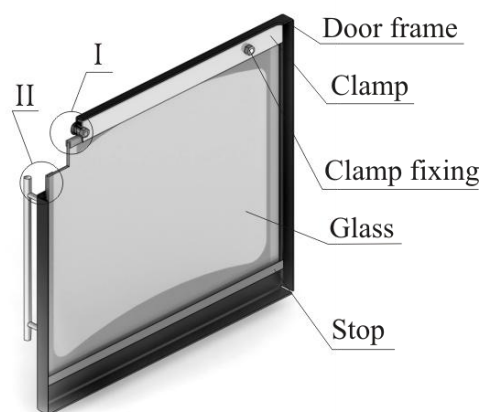

Figure 15. Repair of translucent screen of «Vitra» model door
In case of translucent screen (glass) damage at the door of «Vitra» model it shall be replaced as follows (see figure 15):
1. Unscrew two nuts fixing the clamp (figure 15.I), and disassemble it and distance bushings.